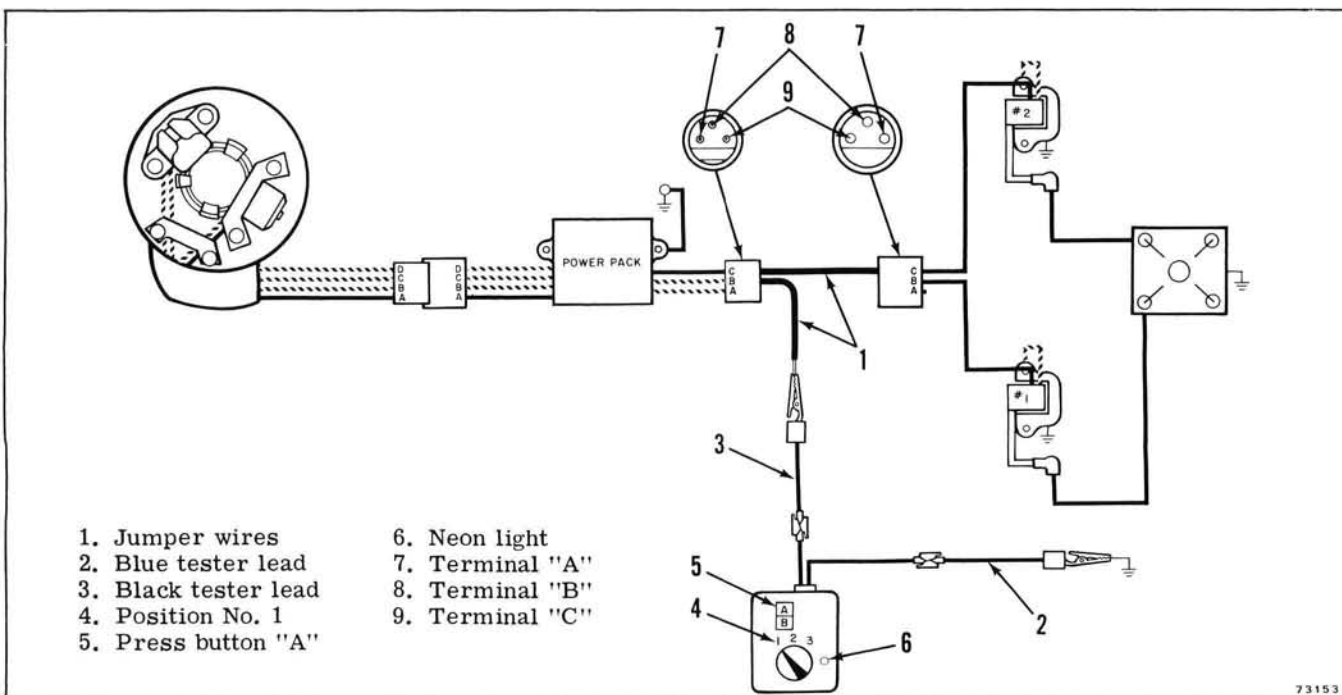

Figure 4-25. Power Pack Output Test
- Insert a jumper between the "C" terminals of both three wire connectors. See Figure 4-25.
- Connect a jumper wire to the neon tester black lead, and insert the jumper wire to terminal "B" in the power pack end of the connector. See Figure 4-25.
g. Reverse the jumper wires between terminals "B" and "C" in the power pack end of the connector. See Figure 4-25.